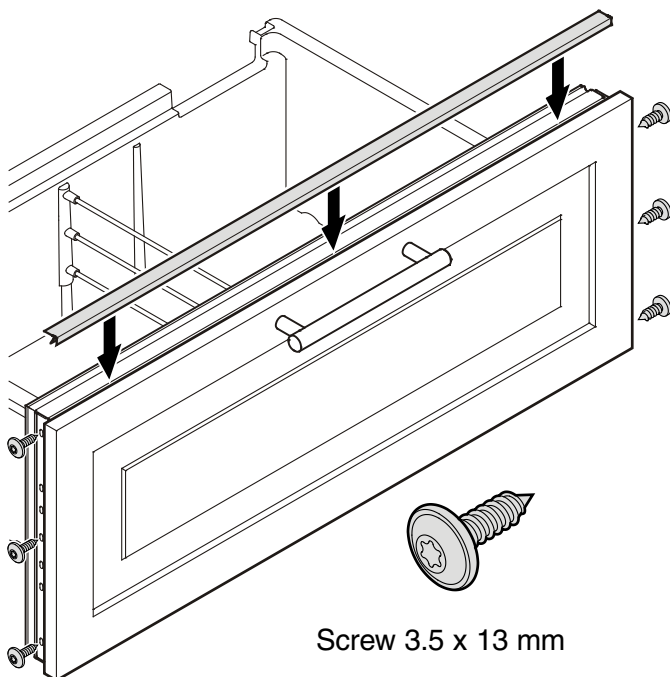

Figure 23
## Mounting the freezer drawer panels - Figure 23
1. Pull out the upper freezer drawer and screw on the panel with three screws at left and right hand side using the screws as shown in **Figure 23**.
4. Finally cover the gap between the drawer and the panel of both freezer drawers with the strips provided. Remove the foil from the adhesive surface of the strip and stick on the top of the appliance drawer (**Figure 23**) making sure the flexible gasket is fully inserted in the gap.